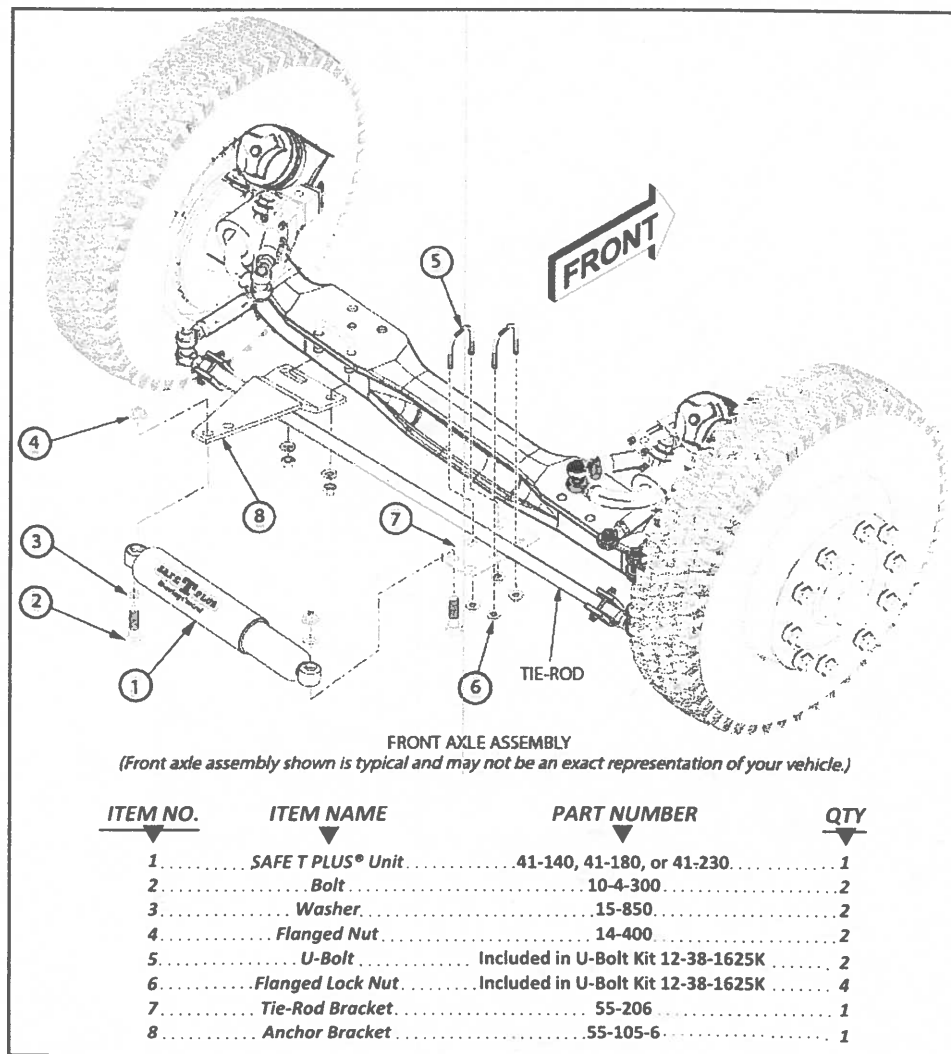

Figure 1. SAFE T PLUS® Unit and Attaching Hardware Installation Diagram
- Refer to *Figure 1* to familiarize yourself with hardware orientation and installation.
1. Gain access to SAFE T PLUS® unit. Using a socket wrench with a 9/16-inch socket, loosen **Flanged Lock Nuts** on Tie-Rod Bracket **U-Bolts** so that **Tie-Rod Bracket** is no longer secured to the Tie-Rod. Be sure Tie-Rod can slide freely between the **U-Bolts** and **Tie-Rod Bracket** without binding (Figure 1).
2. After completion of vehicle alignment, ensure vehicle front wheels remain in the straight ahead position. Using a torque wrench with a 9/16-inch socket, torque **Flanged Lock Nuts** on Tie-Rod Bracket **U-Bolts** to **20 foot pounds** (Figure 1).